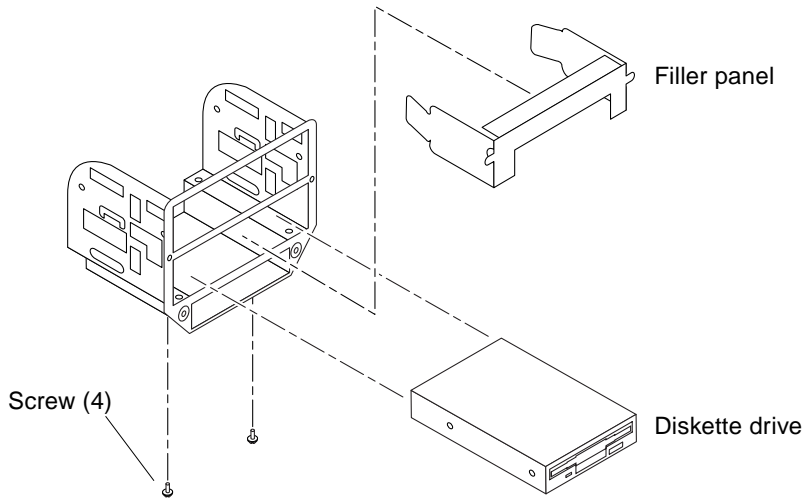

FIGURE 7-5 Removing and Replacing the Diskette Drive
1. **Position the peripheral assembly on a flat surface so that the diskette drive is flat (FIGURE 7-5).**